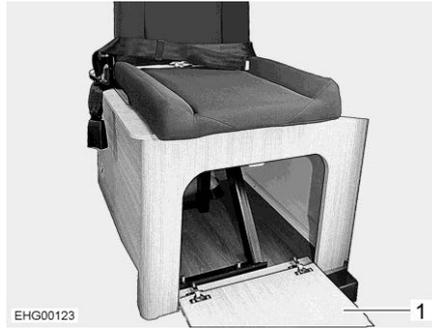

Fig. 32 Chest frame (open)
- Fold flap (Fig. 32,1) on the chest frame downwards.